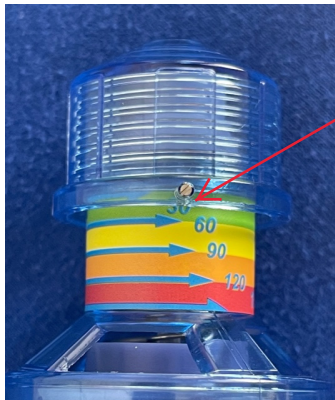

Figure 1
- 1, Set (move) the small screw on the knob to sit on (just above) the number 30. This is 30cmH₂O. (See figure 1)